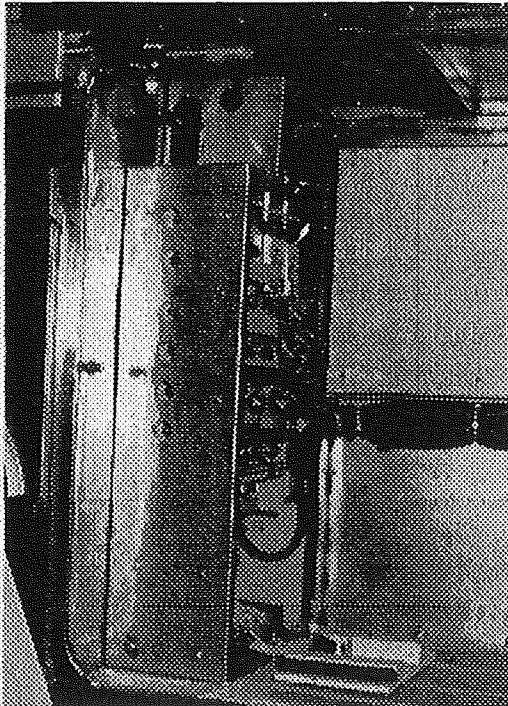

FIG. 8
To gain access to the components inside the engine junction box, unscrew the 1/4 turn screws (2) and open the hinged panel. The following components are located in this box: the junction terminals, the A/C and heating system control panel, the control modules (W973B), a junction battery terminal, junction boxes and the evaporator fan motor breakers (see fig. 8).